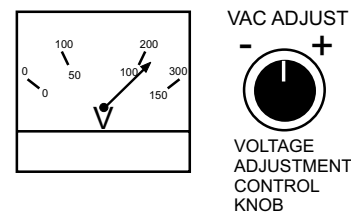

Figure 24. Voltage Meter/Adjustment Control Knob
9. The generator's voltage meter (Figure 24) displays the 120 VAC in **VOLTS**. If the voltage is not within the specified frequency tolerance, use the voltage adjustment control knob to the right of voltage meter to bring the voltage within range.